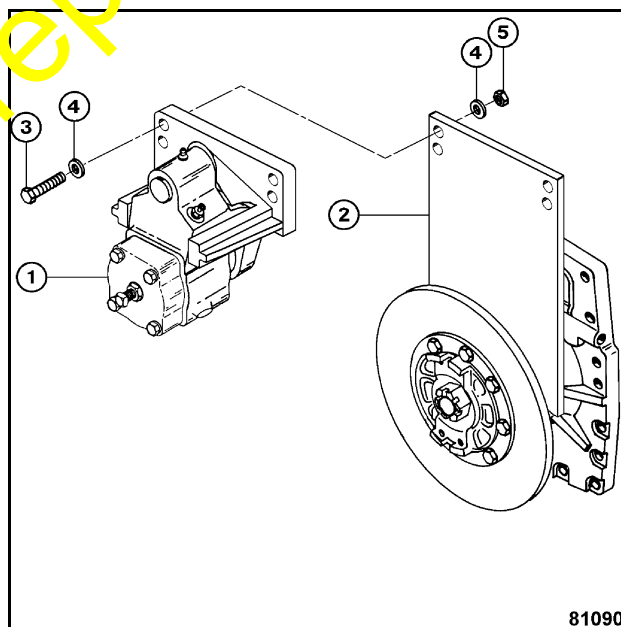

Figure 5
11. Install parking brake disk (9) to yoke (4) with new hardware: eight 24841R1 bolts (10), sixteen 25534R1 washers (11), and eight 9413979 lock nuts. Tighten to 50 lbf ft in a star crossing pattern.
12. Install parking brake caliper (1, Figure 5) to parking brake bracket (2) by following installation instructions in Shop Manual K-4.30.